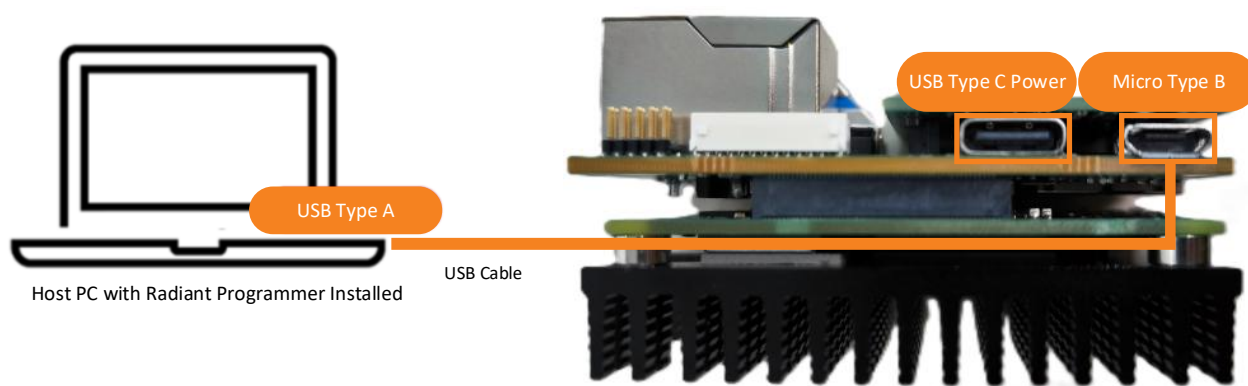

Figure 5.17. Hardware Setup for Serial Console Access
This section explains how to access Raspberry Pi CM5's Linux terminal through its built-in serial console. This allows for network-free headless access. The minimal connection required for serial console access is shown in Figure 5.17. A USB Type C power brick provides power to the module while a USB Type A to Micro Type B cable provides connectivity from the Host PC to Raspberry Pi CM5.
1. Connect the board to the PC using a USB Type A to Micro Type B cable, as shown in Figure 5.17. Connect the power adapter to the Raspberry Pi CM5 board and power on the adapter.